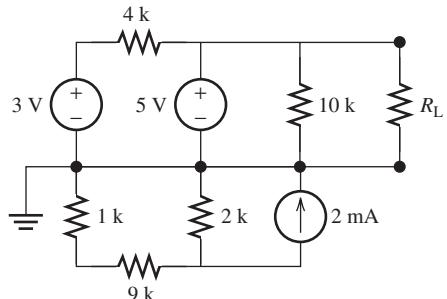

FIGURE P3.72 Circuit for Problem 3.72.
- 3.72 (H)** Using the superposition principle, find the Thévenin equivalence seen by R_L in Figure P3.72.